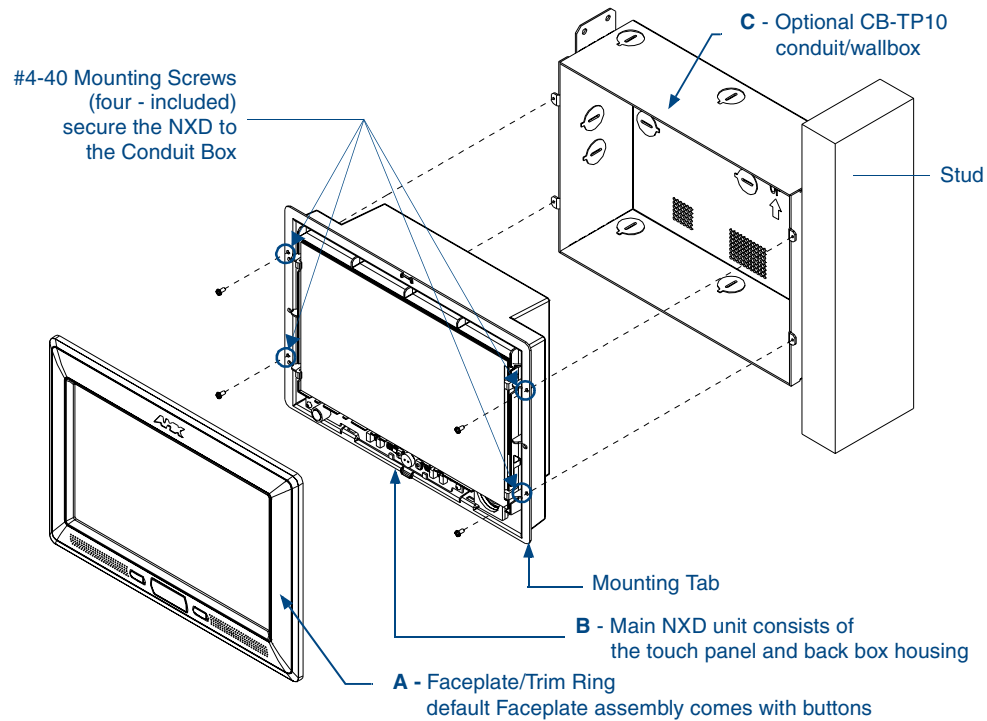

FIG. 21 NXD-1000Vi panel installation into a CB-TP10 (pre-wall construction)
1. Remove the Faceplate/bezel (A in FIG. 21) from the main NXD unit (B in FIG. 21) by gripping the faceplate and pulling with gentle outward force.
6. Carefully slide the main NXD-1000Vi unit (**B** in FIG. 21) into the conduit box, so that all Mounting Tabs lie flush against the conduit box (**C** in FIG. 21).
8. Place the Faceplate/Trim Ring assembly (**A** in FIG. 21) back onto the main NXD unit (**B** in FIG. 21). *Make sure to align the Microphone, Light, and PIR Motion sensor locations to their respective openings on the front faceplate/bezel.*